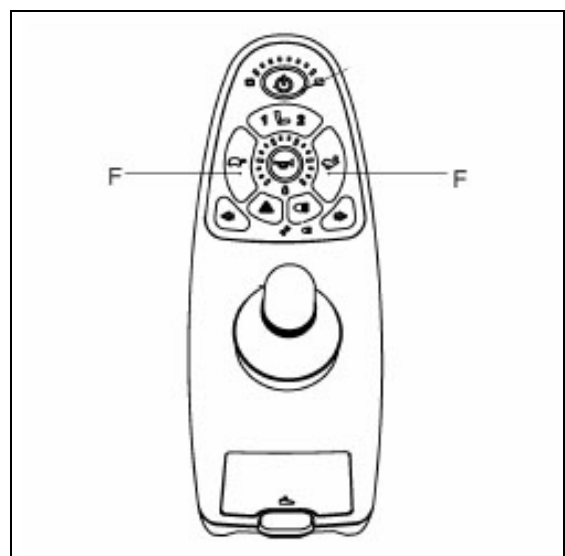

Figure 3.8
- With the speed keys (F in fig. 3.8) on the 'Shark seats/lights & actuators' controller.